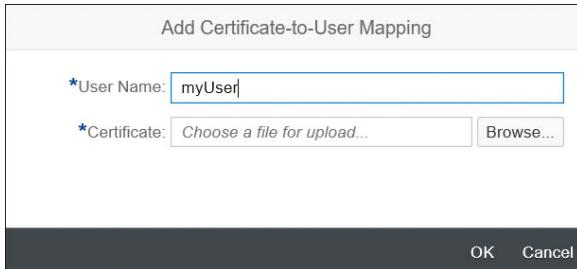

Figure 8.36 Adding a New Certificate-to-User Mapping
2. Specify the **User Name** to which the certificate needs to be mapped (see Figure 8.36).